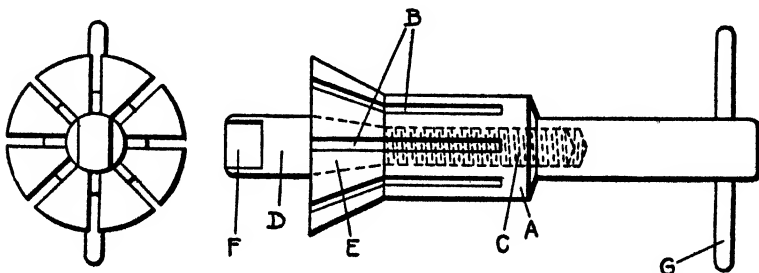

Fig. 31. Cone Puller
*Bearing Cup Puller.* As it is very hard to get a bearing cup out of an end plate, such a puller as shown in Fig. 31 is quick and efficient. The body *A* is made of cold-rolled steel, the lower end being shaped to a sharp angle and slotted so that it will